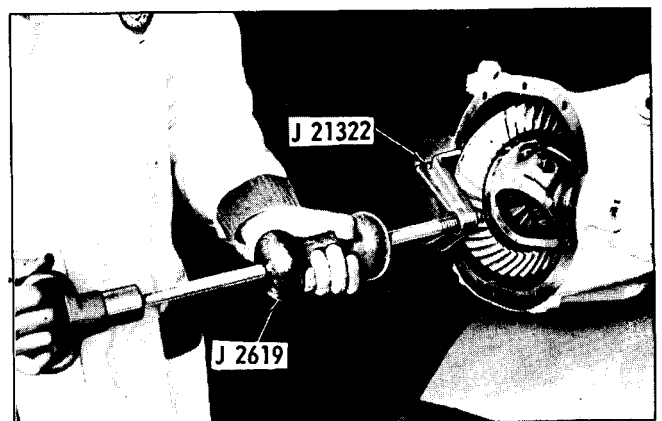

Fig. 4A-19 Removing Differential Case
3. Remove retaining bolts which hold rear universal joint to companion flange. On standard propeller shaft with single cardon joint, use a heavy rubber band or tape to hold bearings onto journal to prevent loss of bearing rollers when joint is disconnected if tie wire has been removed (Fig. 4A-6).
and sleeve set J 22042 and slide hammer J 2619 (Fig. 4A-21).